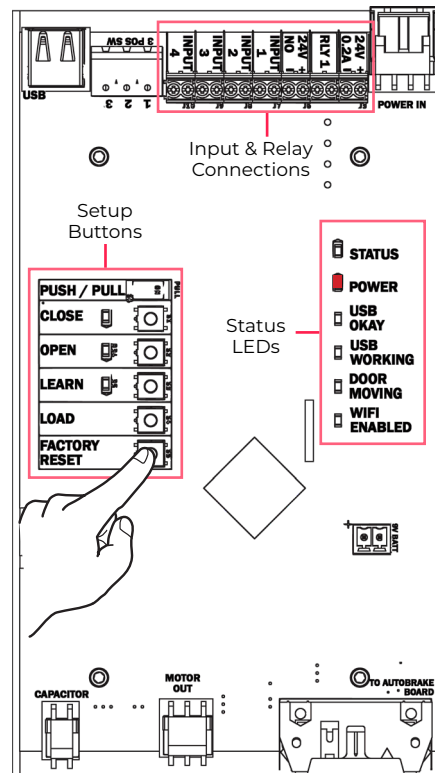

Figure 3
3. Wire any additional devices, such as electric strikes, to the green Input and Relay terminal block connections. (Figure 3) Refer to Input Connections and Output Connections on page 11 for additional information.
2. Wire any additional devices, such as electric strikes, to the green Input and Relay terminal block connections (Figure 3). Refer to Input Connections and Output Connections on page 11 for additional information.
2. Press and hold the Factory Reset button until all LEDs are lit, then release. (Refer to Figure 3 for LED and Setup Button location.)